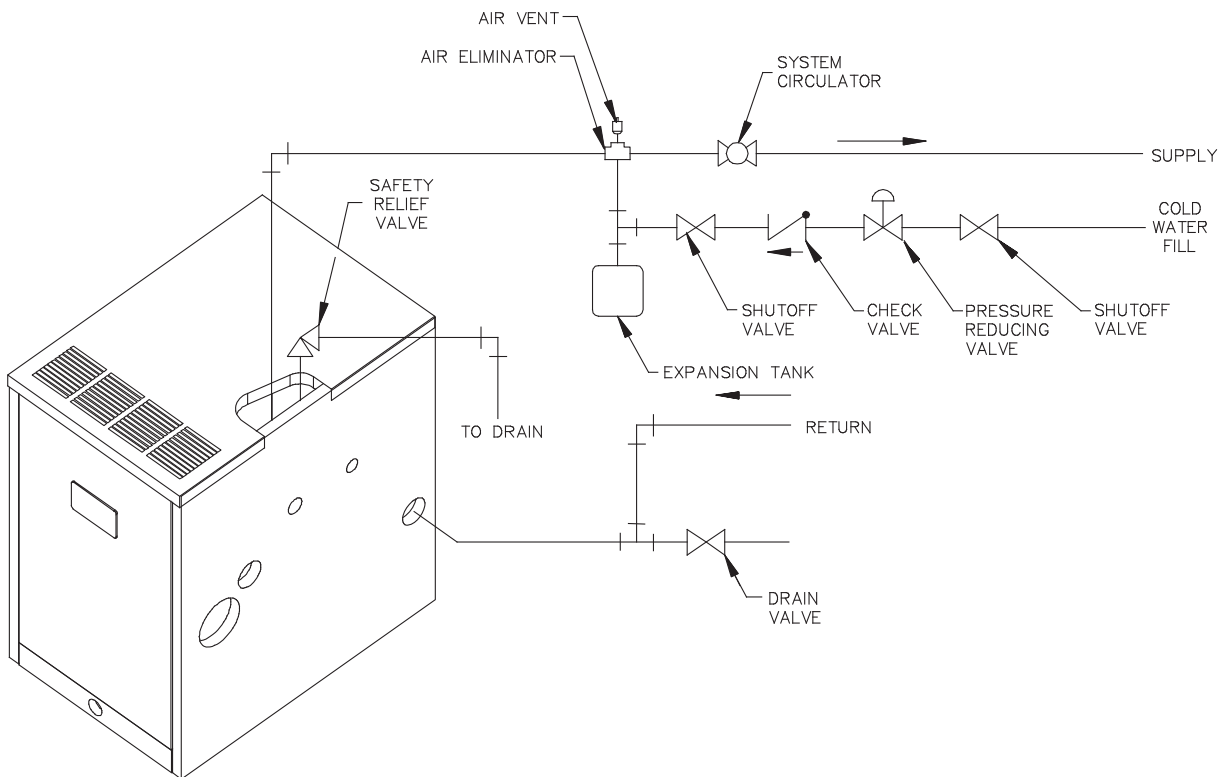

Figure 3.1: Supply and Return Piping
1. Size the supply and return to suit the system. A typical piping arrangement is shown in Figure 3.1. Refer also to the Hydronics Institute Residential Hydronic Heating Installation Design Guide and the PB Heat Water Survey for additional guidance during water piping installation.
5. If desired, install the circulator in the alternate location shown in Figure 3.1. Consult the PB Heat Water Survey for more information on circulator location.
Refer back to Figure 3.1 for typical expansion tank piping.